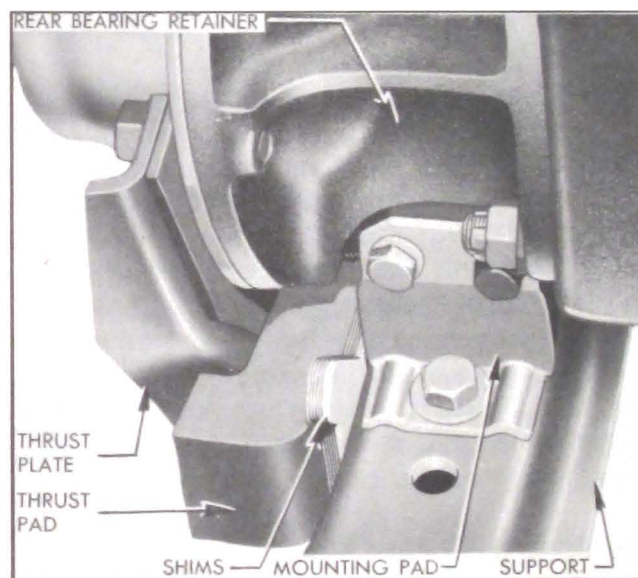

Figure 4-60—Transmission Mounting and Thrust Pads and Shims
6. With engine and transmission resting freely and normally on mountings, install sufficient shims between the thrust pad and transmission support to fill the existing space. Insert shims from above with tabs on right side, then install the bolt plate and three nuts which attach thrust pad to support. See figure 4-60.